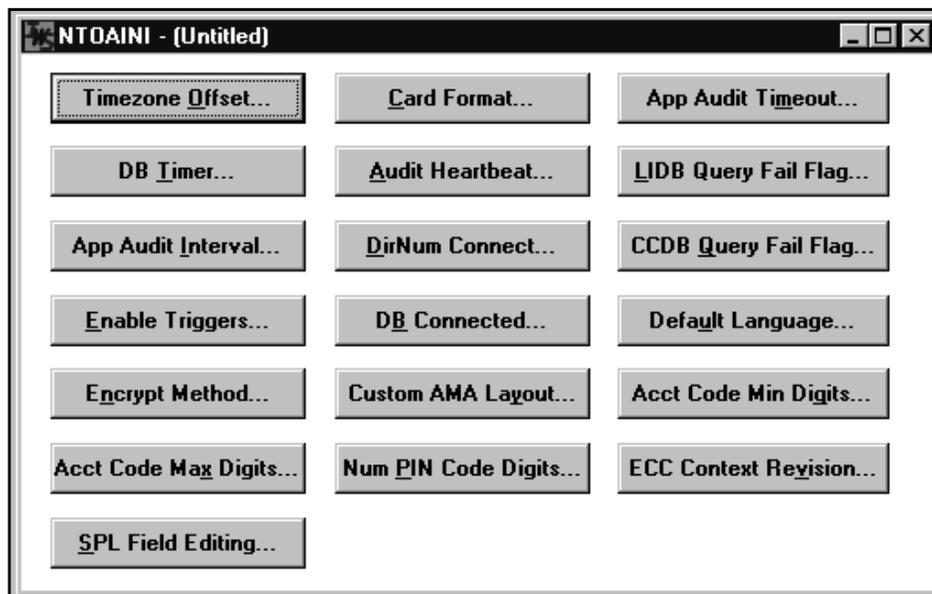

FIGURE 89. Example of NTOAINI configuration window
4. Select NTOAINI. (See Figure 89.)